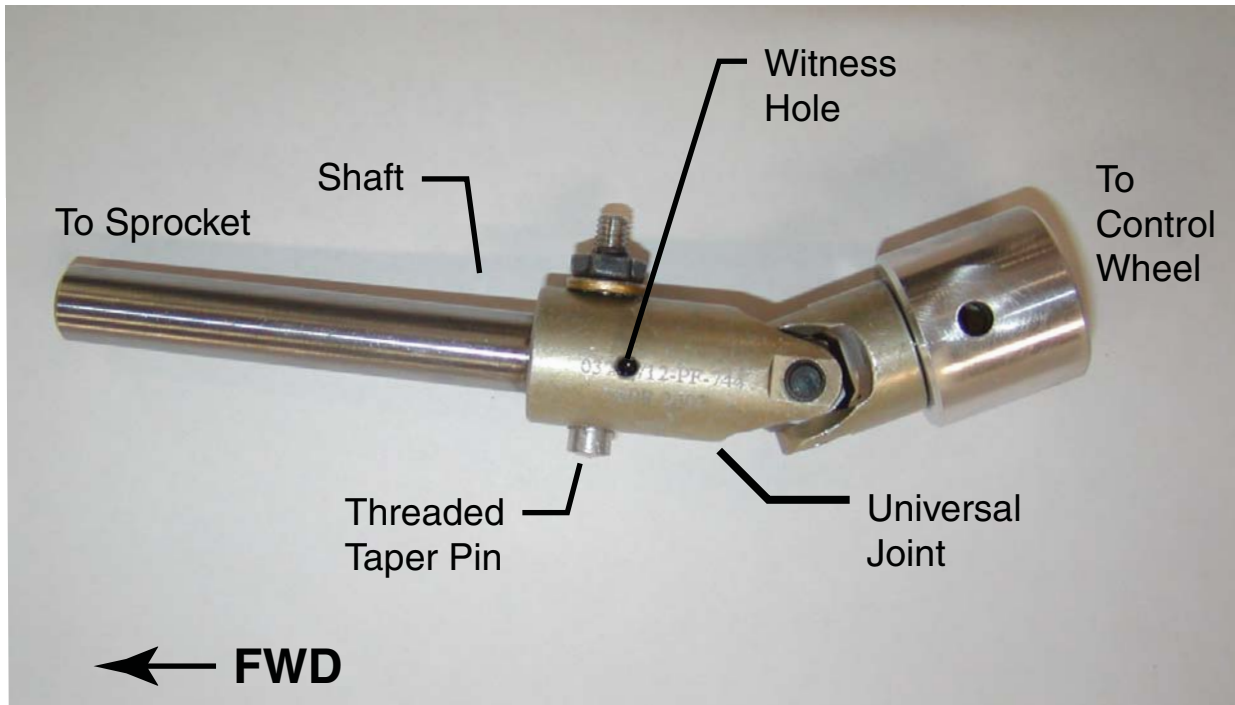

Figure 2
3. Inspect each universal joint for the presence of a witness hole, as shown in Figure 2. Most aircraft will have this witness hole feature. However, some early model aircraft may not have a witness hole. If no witness hole exists, proceed to step 5.